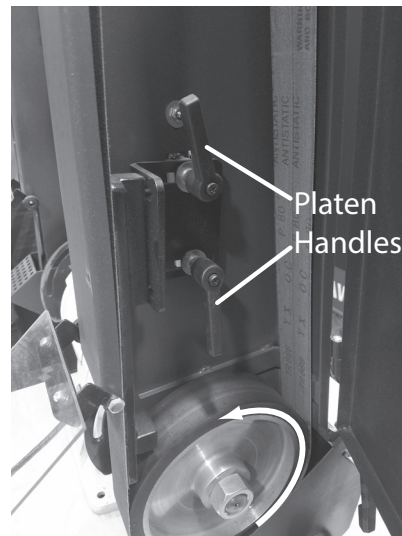

Figure 10. Inside belt guard
- Remove belt carefully, you may need to loosen the two platen handles, shown in Figure 10.
- Replace the belt such that it will run in the correct direction. The wheel rotates counterclockwise in operation as shown in Figure 10.